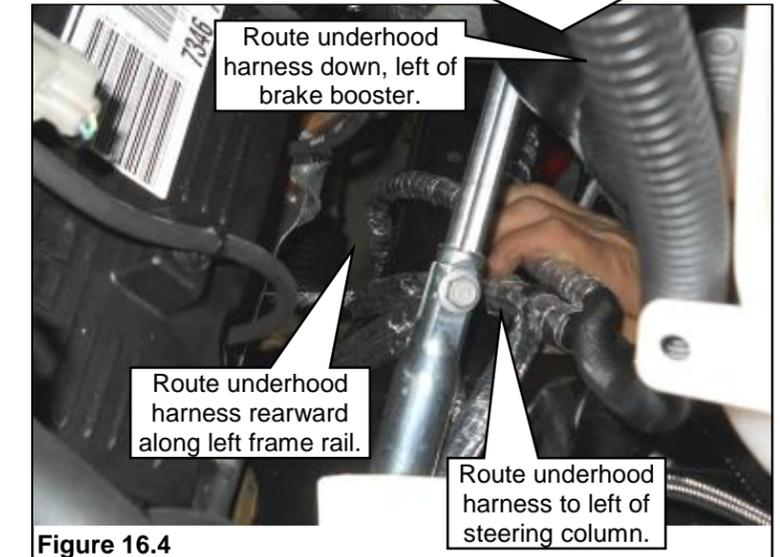

Figure 16.4
11. Route the lower end of the underhood harness with the 6-pin and 2-pin connectors down along the wheel well to the left of the steering column and back toward the left side frame rail. Following the Ford chassis harness. **Note:** Make sure to secure the ROUSH CleanTech underhood harness to keep it away from the steering column and other heated or moving components. **Figure 16.4.**